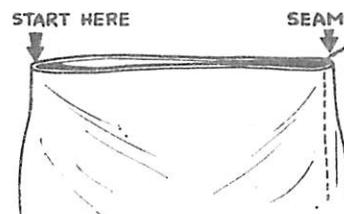

Figure No. 9
14. ALWAYS start a new bag from the side opposite the seam, never on the seam. See Figure No. 9.